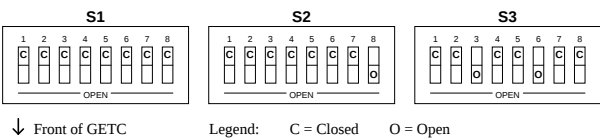

Figure 6 - DIP Switch Settings
- Set the GETC DIP switches S1, S2, and S3 for the programming mode as shown in Figure 6. DIP switches S1-S3 are located near the front of the GETC Shelf, see Figure 4.